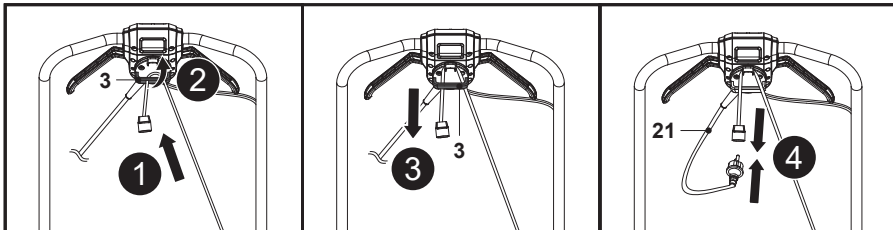

Fig. 8
1. Double the extension cord back, about 30 cm from the end and lead the loop through the hole of the cord retainer (3) and hang the loop over the hook (Fig. 8, steps 1, 2).
2. Pull the extension cord over the cord retainer (3) and gently tug on the cord to ensure that it is firmly secured (Fig. 8, step 3).
3. Connect the power cord (21) to the socket of the extension cord (Fig. 8, step 4).